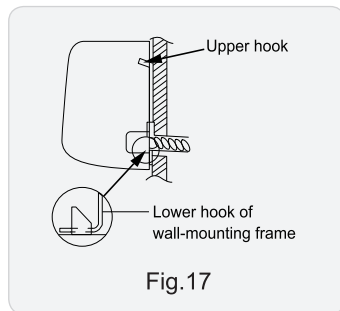

Fig. 17
- (5) Check if the indoor unit is installed firmly and closed to the wall. (As show in Fig.17)